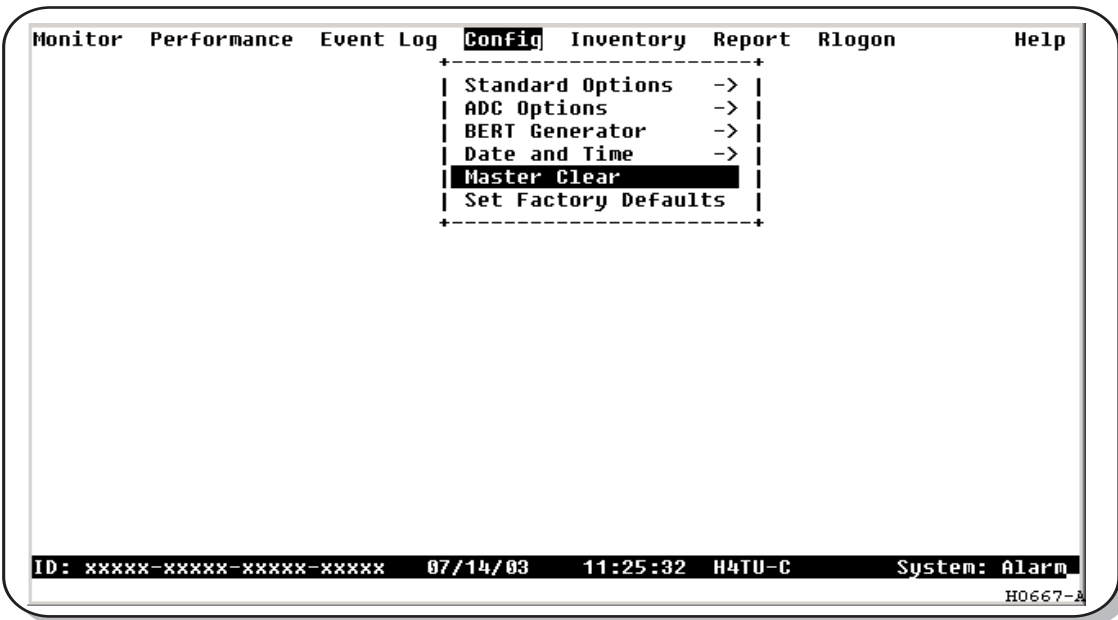

Figure 10. Config Menu - Master Clear
- 2 Use the **↑** and **↓** arrow keys to select **Master Clear** (see Figure 10).